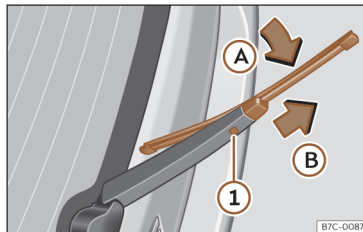

Fig. 181 Changing the rear wiper blade
- Rotate the blade lightly >>> **Fig. 181** (arrow **A**).
- Hold down the release button ① while gently pulling the blade in the direction of arrow **B**.
- Insert a new blade of the **same length and type** in the rear wiper arm in the opposite direction to the arrow **B** until button ① hooks into place.